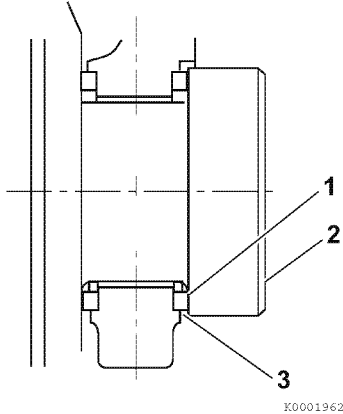

Figure 6-57
- **Method B:** Use a feeler gauge to measure the clearance (3, **Figure 6-57**) between the thrust bearing (1, **Figure 6-57**) and crankshaft (2, **Figure 6-57**). Record the measurement. See *Thrust Bearing* on page 6-7 for the service limit.